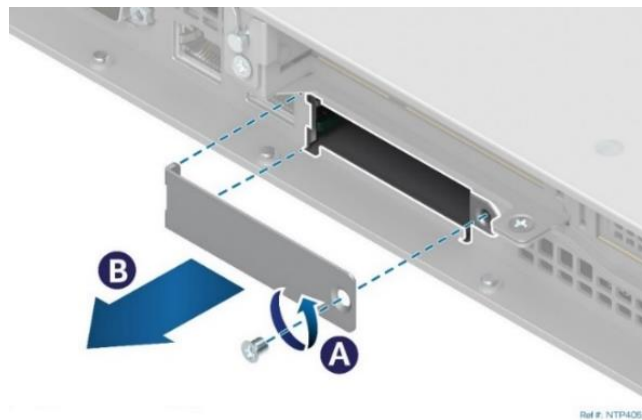

Figure 41. OCP* Adapter Bay Filler Removal
5. Remove the OCP* bay cover plate from the system back panel (see Figure 41)